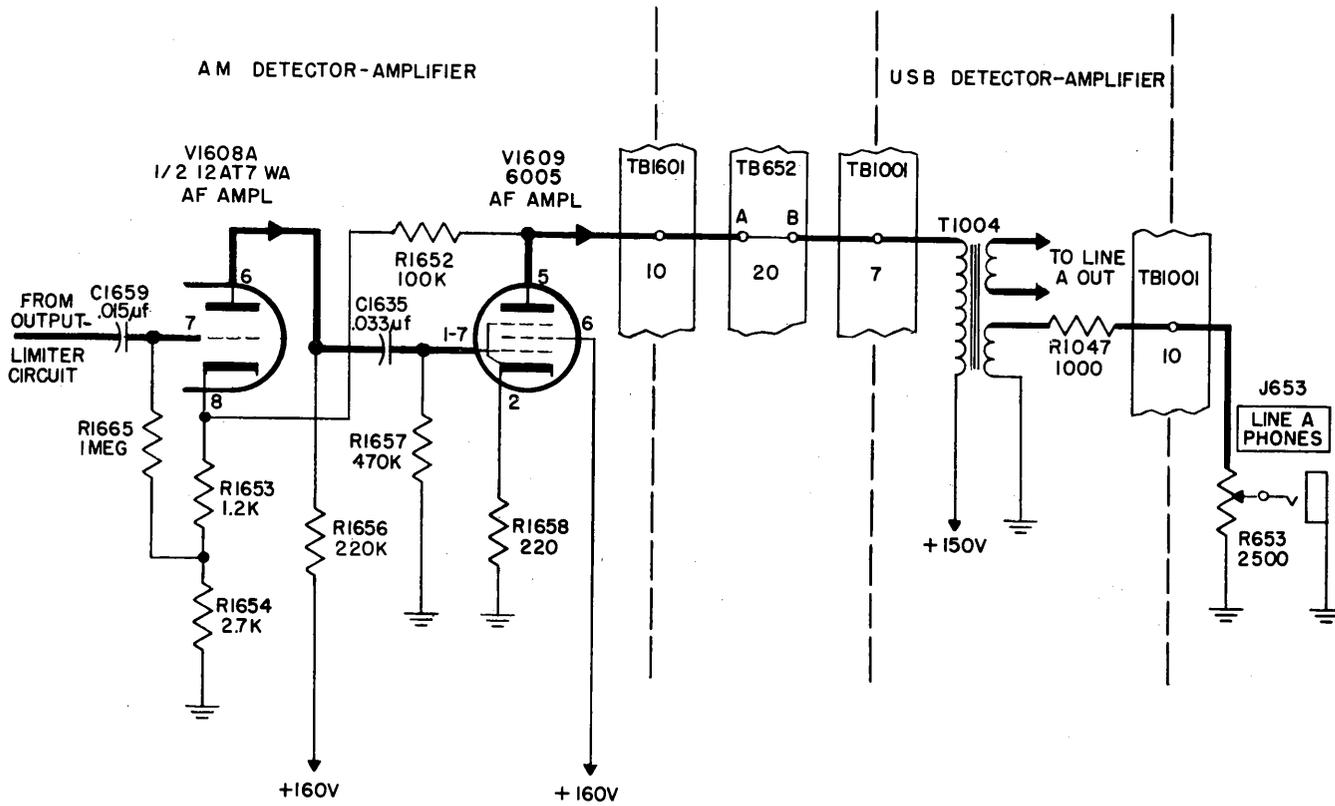

Figure 4-24. AF Amplifiers V1608A and V1609, Simplified Schematic Diagram
In the positive portion of the input signal cycle at A, as the varying AF signal increases in amplitude, the potential difference between points C and A becomes smaller. Since the voltage at C is still greater than that at A, there is still conduction through diode CR1605 and a consequent voltage drop across resistor R1668. This drop, however, is less than it was before application of AF voltage at A, because of the smaller difference in potential between points C and A. Therefore, the voltage at B is greater by the amount of decrease in voltage drop in R1668, and the voltage at E is correspondingly increased. This variation in AF voltage is impressed on the grid of V1608A (figure 4-24). Thus, all voltages on the positive half of the AF input signal are passed on to the V1608A grid so long as the voltage at which clipping occurs has not been reached.
g. AF AMPLIFIERS V1608A and V1609. (See figure 4-24.)—Amplifiers V1608A and V1609 are conventional AF amplifiers except for the application, from the plate of V1609 to the cathode of V1608A, of a negative feedback applied through a voltage-divider network consisting of resistors R1652, R1653, and R1654. Feedback is derived also from unbypassed cathode resistor R1658